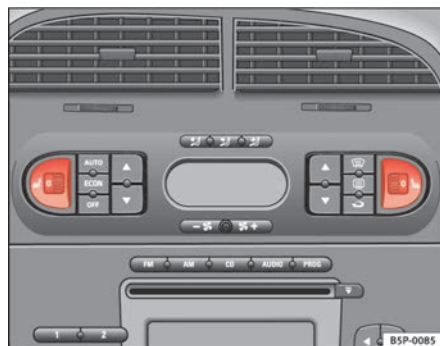

Fig. 96 Thumb wheel for the front seat heating
- Turn the appropriate thumb wheel $\Rightarrow$ fig. 96 to switch on the seat heating. The seat heating is switched off in the **0** position.